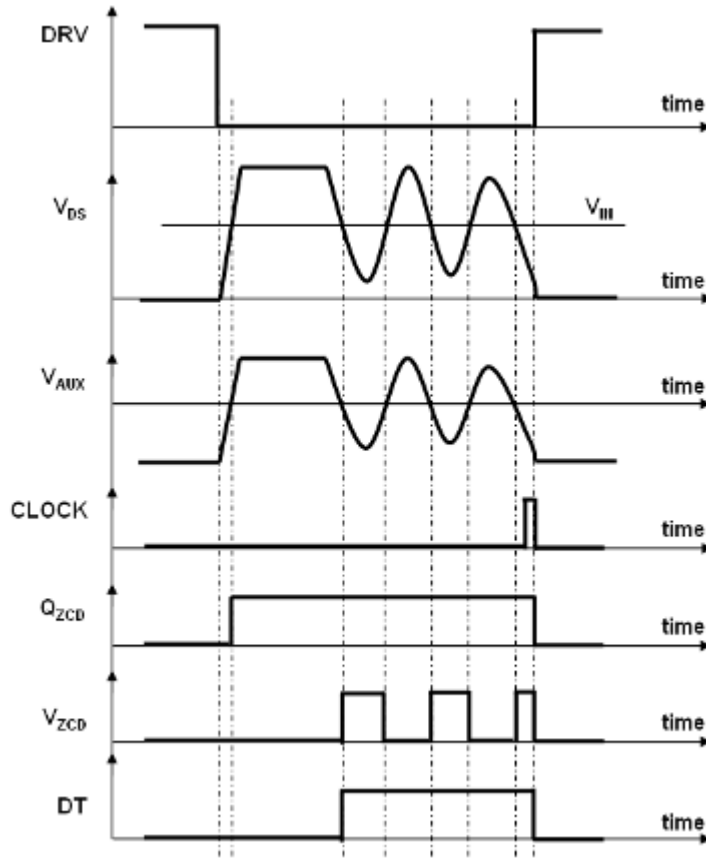

Figure 12. Zero Current Detection Timing Diagram
Practically, an auxiliary winding in flyback configuration is taken off of the boost inductor and gives a scaled down version of the inductor voltage that is usable by the controller (Figure 12). In that way, the ZCD voltage (“V_{AUX}”) falls and starts to ring around zero volts when the inductor current drops to zero. The NCP1631 detects this falling edge and allows the next driver on time.
- However, the coil current can possibly be non zero when the clock signal turns high. The circuit would enter Continuous Conduction Mode (CCM) if the MOSFET turned on in that moment. In order to avoid CCM operation, the clock is prevented from setting the PWM latch until the core is reset (that is as low as “V_{ZCD}” of Figure 8 is low). The clock signal remains high during this waiting phase (refer to Figure 12). Hence the next MOSFET conduction time occurs as soon as the coil